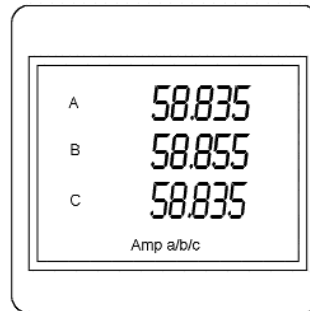

Figure 6.3: P41N Display
- Figures 6.3 and 6.4 show the P41N and P43N displays showing sample readings.